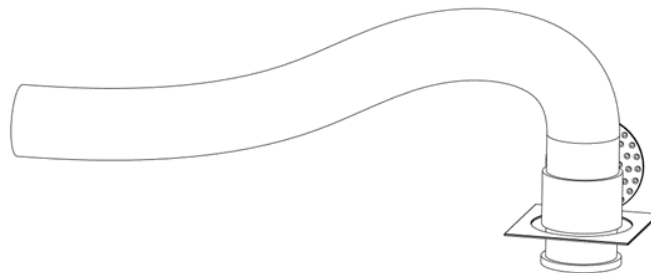

FIGURE 2-13
1. Connect the hose to the drain (Fig. 2-13).